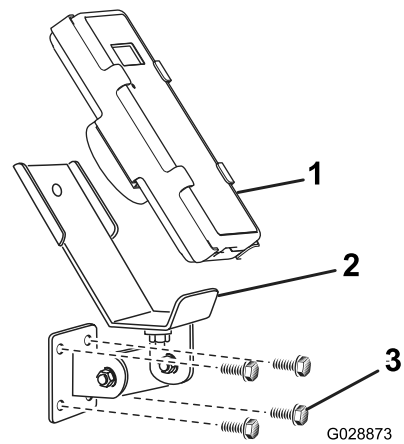

**Figure 13**
5. Install the handheld remote into the magnetic remote bracket, slide the halves together to secure the remote, and tighten the bolt in the magnet (Figure 13).